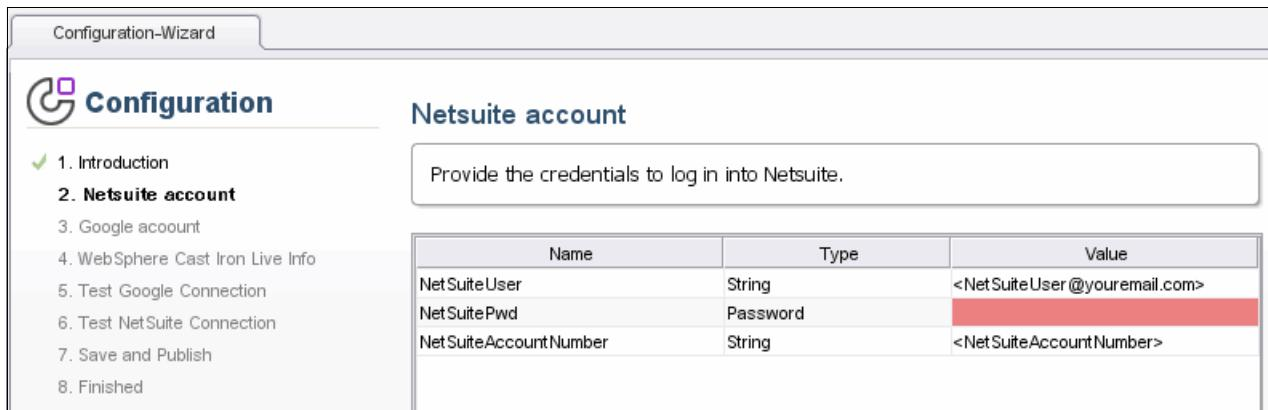

Figure 11-9 TIP configuration wizard step 2: NetSuite account details
- In step 2, enter the NetSuite account details, as shown in Figure 11-9, and then click **Next**.
10. In step 6, click **Test Connection** to test the NetSuite connection. A dialog box opens to confirm a successful connection. If the connection is *unsuccessful*, return to step 2 by clicking the Back button, and then enter the NetSuite account details again, as shown in Figure 11-9 on page 440. If the connection is successful, close the dialog box, and then click **Next**.